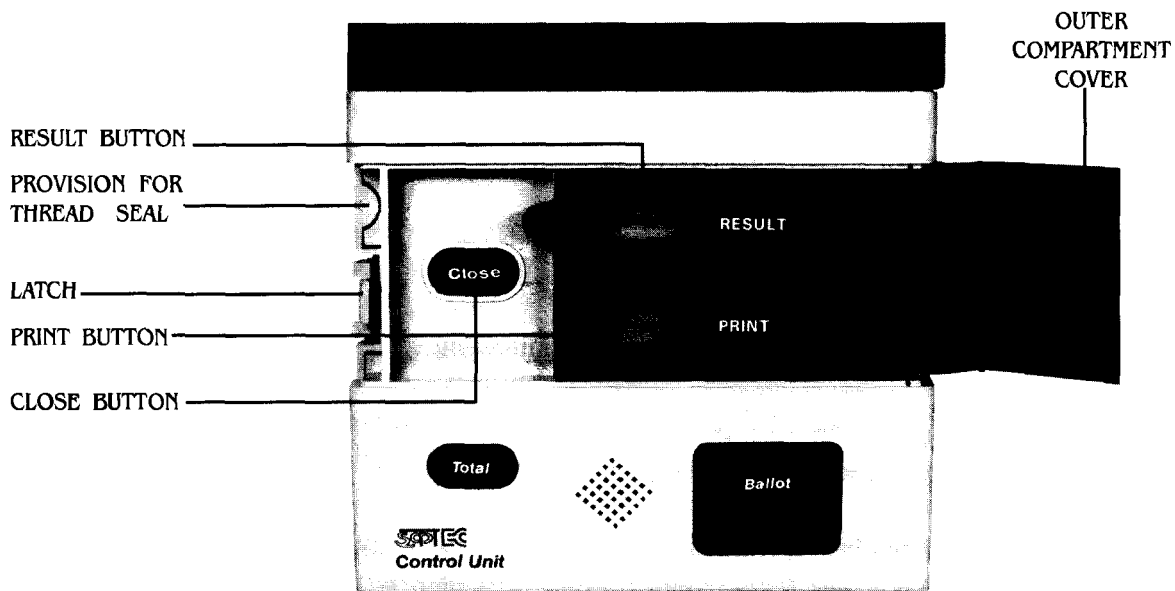

Fig.9 View of Outer compartment of Result Section
21. The cover of the result section has an elliptical aperture on the left hand side through which the 'Close' button is seen. The left portion of the result section houses a black 'Close' button. The right portion actually has an inner compartment with its own door (Fig.9).
Close Button (Fig. 9)